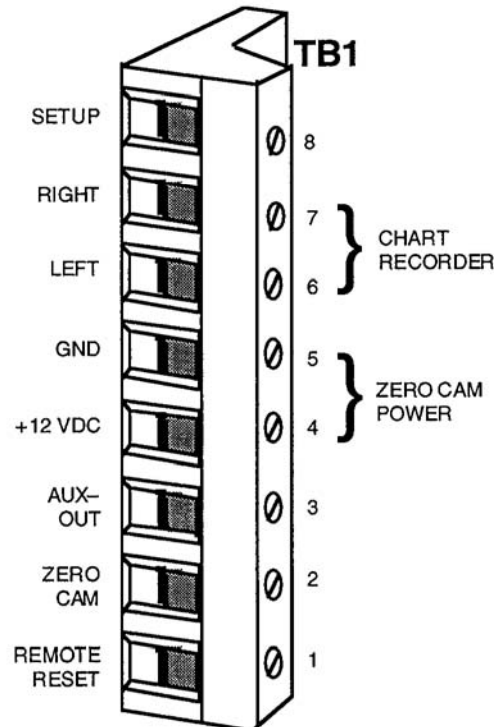

Figure 2-9. Connector for zero cam, remote reset and chart recorder
The zero signal must come on approximately at 240° and turn off at 30°. (The zero signal is a closure to ground. That means during the zero signal the cam switch must be closed. The closed switch makes a connection between the zero cam terminal (pin 2) and GND (pin 5) on connector TB1 (see Figure 2-9).
4. Once the LMCS is installed, you are ready to wire it to the connector for TB1. Open the AutoSet Plus cover and find connector TB1 at the left center of the box. See Figure 2-9. Black wire goes to terminal 5 (GND); white or clear goes to terminal 2 (ZERO CAM); red goes to terminal 4 (SENSOR POWER).
6. Connect one wire to pin 1 (RESET) and the other to pin 5 (GND). See Figure 2-9 for connections.
3. Pull the connector out of socket. Connect the wire that will record tonnage at the left strain link to pin 6 (LEFT). Connect wire for right strain link to pin 7 (RIGHT). See Figure 2-9 for connections.